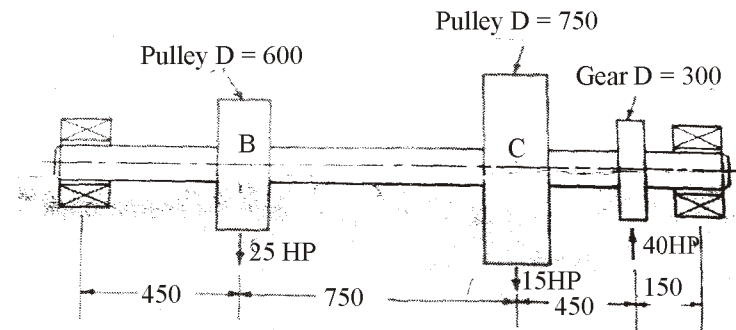

Figure 1
3. A solid steel shaft is supported on two bearings 1800 mm apart and rotates at 250 rpm. A 20° involute gear D, 300 mm in diameter, is keyed to the shaft at a distance of 150 mm to the left of the right hand bearing. Two pulleys B and C are located on the shaft at distances of 450 mm and 1200 mm, respectively, to the right of the left hand bearing as shown in Fig. 1. The diameters of the pulleys B and C are 600 mm and 750 mm, respectively. 29.5 kW (40 H.P.) is supplied to the gear, out of which 18.5 kW (25 HP) is taken off at the pulley B and 11 kW (15 H.P.) is delivered from pulley C. The drive from C is vertically downwards while drive from B is downward at an angle of 60° to the horizontal. In both cases, the ratio of the belt tensions is 2 and